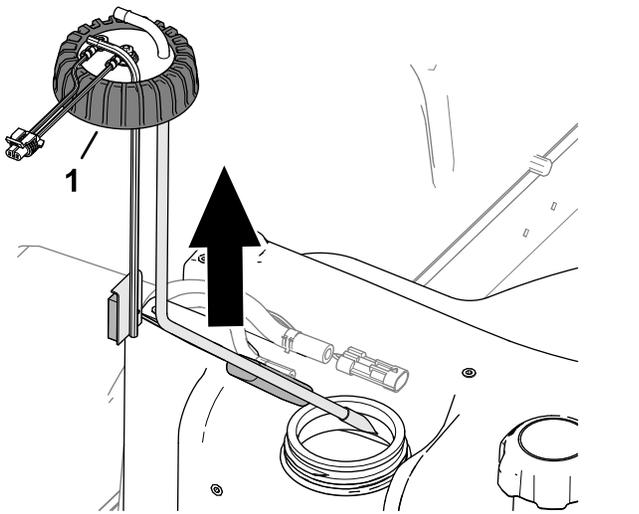

Figure 85
5. Loosen the fuel-sender cap (Figure 85).